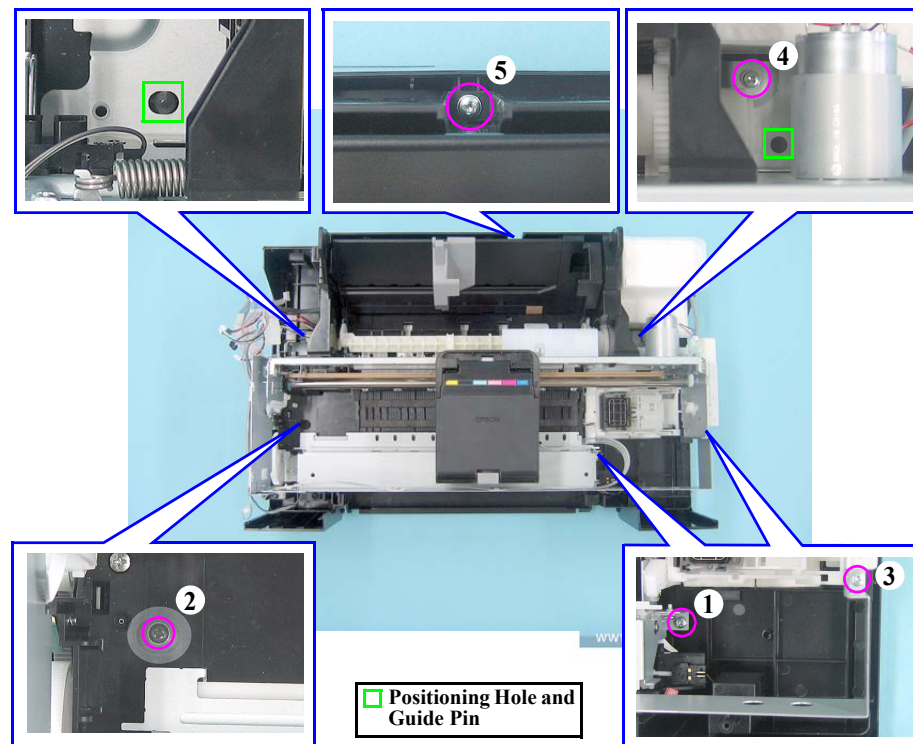

Figure 4-42. Removing the Printer Mechanism (3)
- Match the positioning holes with guide pins (two pairs) shown in Fig.4-42 (p.73).
- Tighten the screws in the order given in Fig.4-42 (p.73).